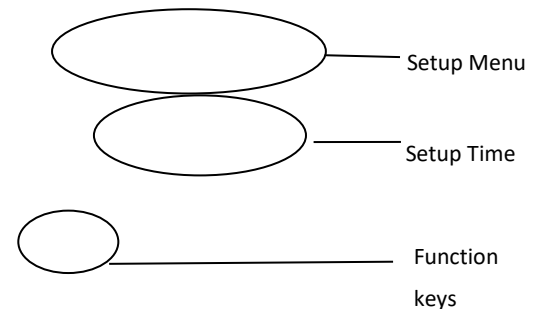

Figure 6
4.1 See figure 6, After pressing the SET key for 4 seconds, the PV